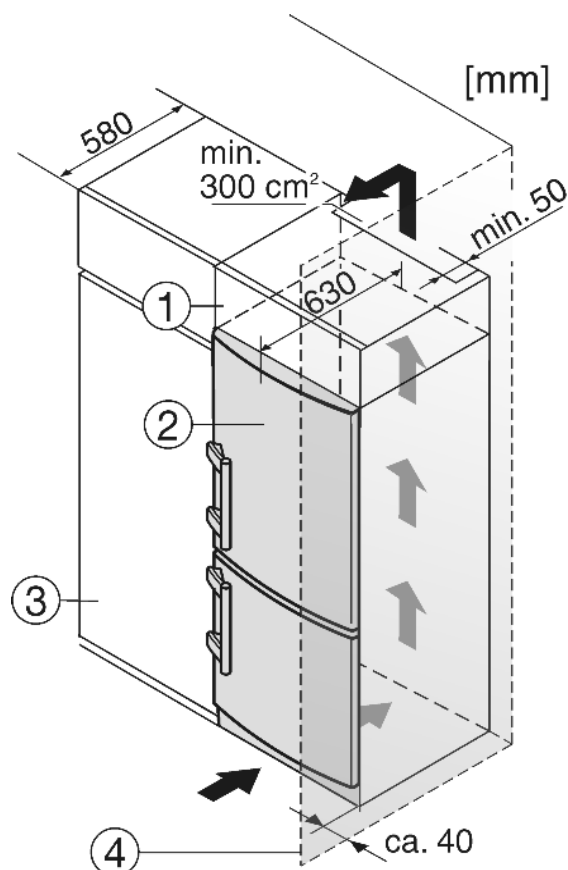

Fig. 12
- (1) Stack cabinet
- (2) Appliance
- (3) Kitchen cabinet
- (4) Wall
The appliance can be inserted into a row of kitchen units. To match the appliance Fig. 12 (2) to the height of the row of units, a suitable stack cabinet Fig. 12 (1) can be fitted above the appliance.
When inserting the appliance into a row of kitchen units (max. depth 580 mm), the appliance can be installed directly next to the kitchen unit Fig. 12 (3). The appliance door projects relative to the front of the kitchen unit by 34 mm at the side and by 50 mm in the middle of the appliance. It can be opened and closed perfectly as a result.
If the appliance is installed with the hinges next to a wall Fig. 12 (4), the distance between appliance and wall has to be at least 40 mm. This corresponds to the projection of the handle when the door is open.